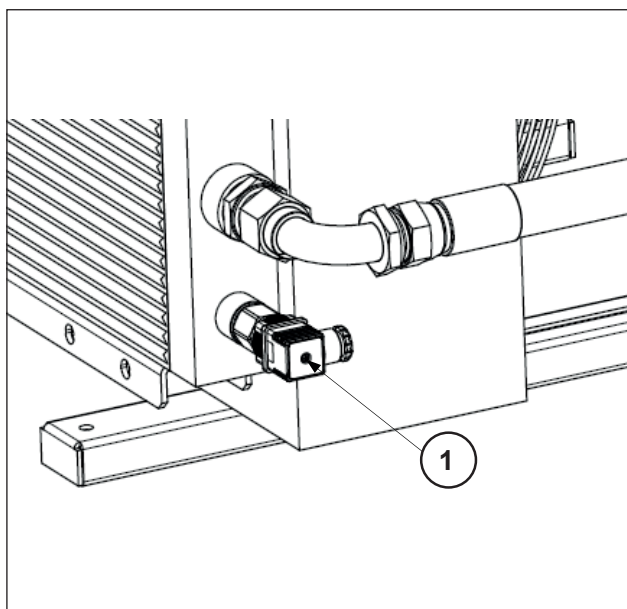

Fig. 16
3. Then connect the second pipe by means of the 90° bend to the fitting located at the outlet of the exchanger, located on its opposite side of the pump (see fig. 16). Tighten to 80 Nm torque.
The heat exchanger is equipped with a thermostat that is activated at 50°C and controls the fan intervention (pos.1 Fig. 16.)